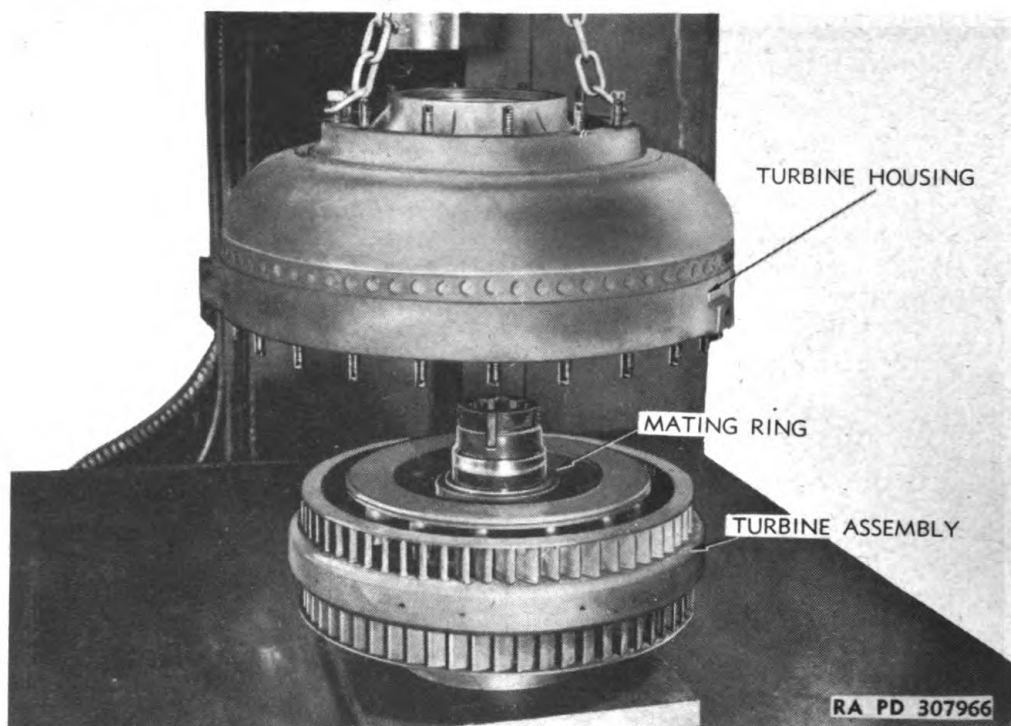

Figure 159 — Lifting Turbine Housing off Turbine
c. Remove Turbine Housing From Turbine. Turn the output half of the converter over so it rests on the 24 projecting studs. Bend the locking lug out of slot in nut and, with the special wrench (41-W-3739-400) shown in figure 181, remove the retainer nut on the outer end of the turbine hub. Now hook the hoist to opposite transmission studs and lift the housing off the turbine as shown in figure 159, tapping the hub if necessary to loosen it. This operation must be performed carefully to avoid damage to the turbine or its